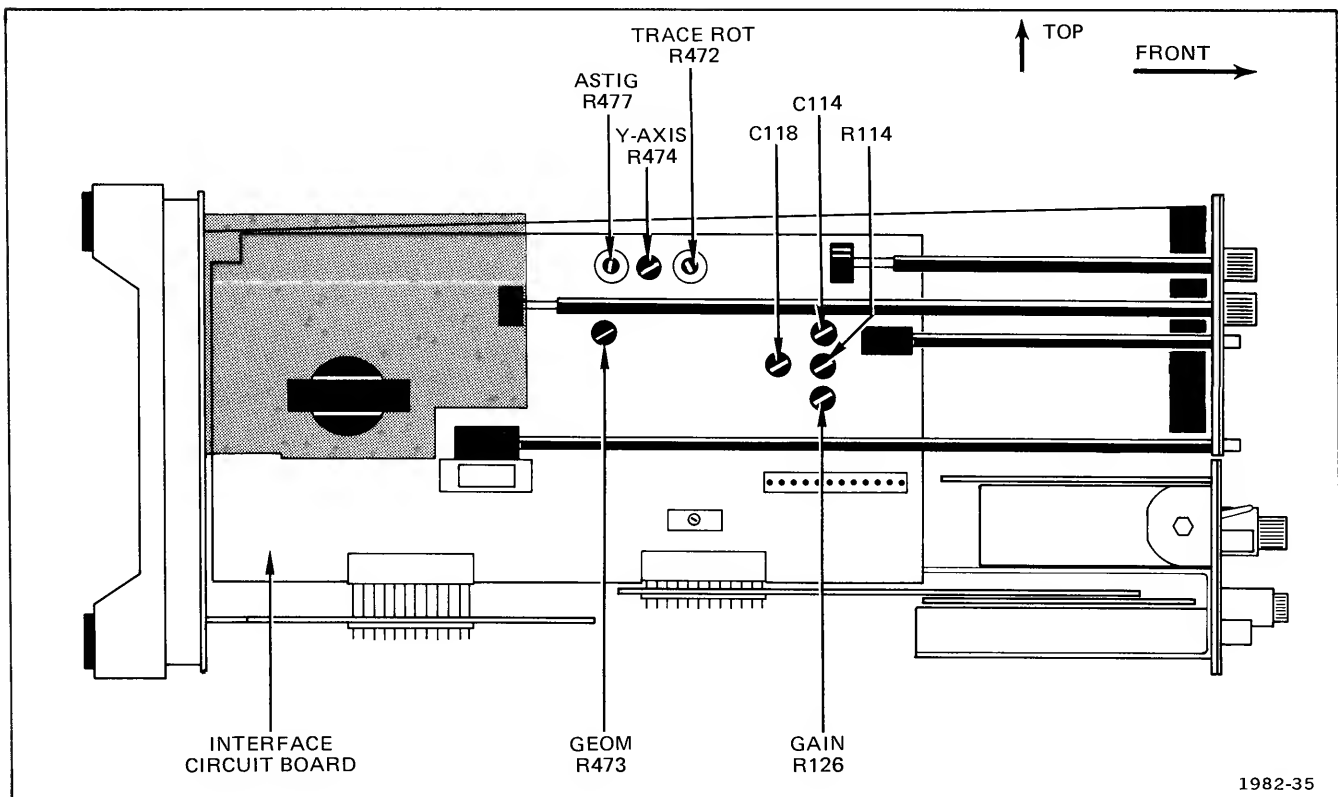
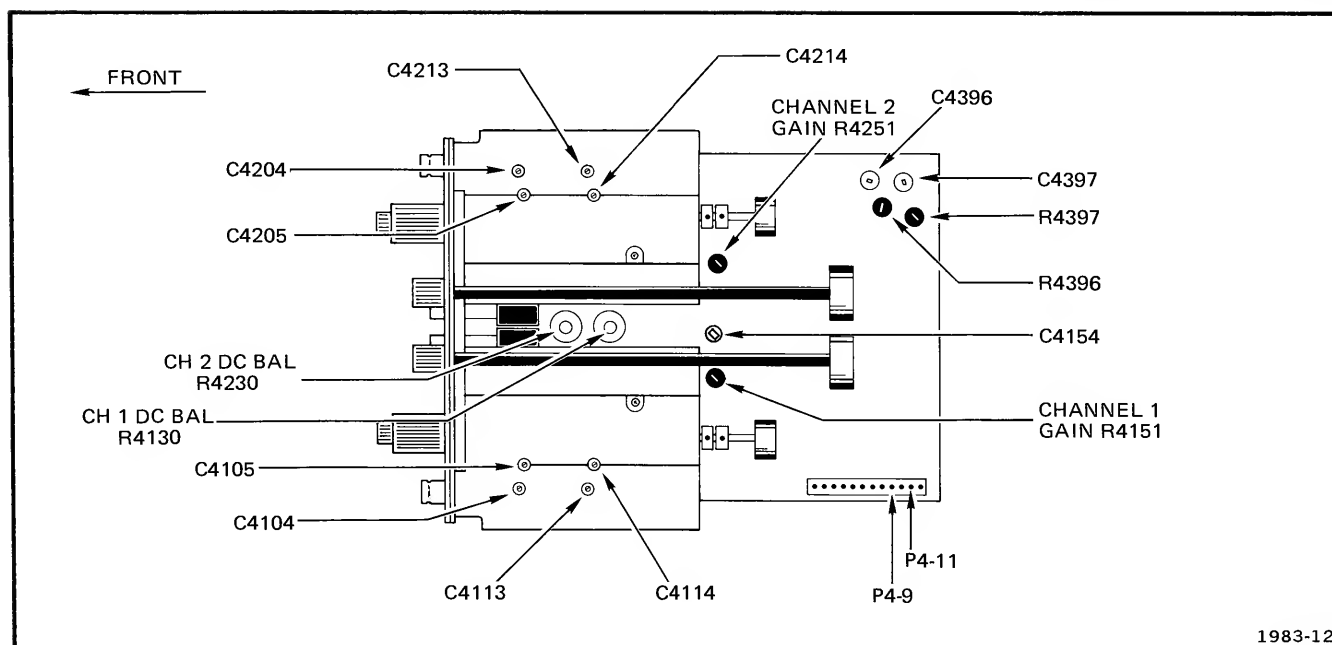
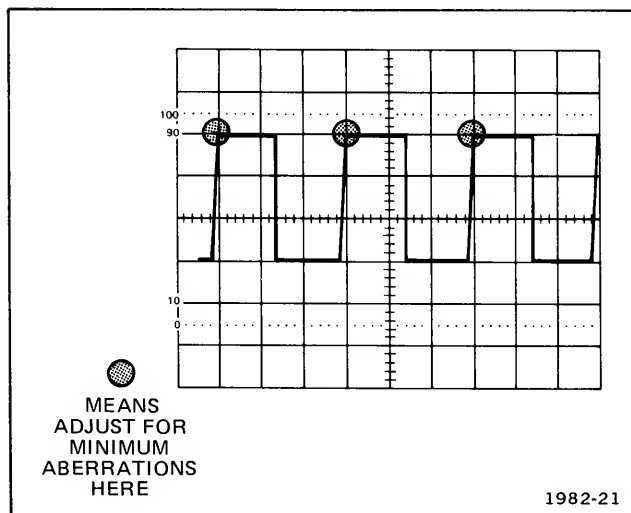

Fig. 4-2. Interface board adjustment locations (on left side of crt).
Fig. 4-3. Vertical Amplifier adjustment locations (bottom view of Instrument).
Fig. 4-4. Display of correct attenuator compensation (Idealized).
- b. ADJUST—Trace Rot, R472 (see Fig. 4-2), to align trace with center horizontal graticule line.
- e. ADJUST—Y-axis, R474, (see Fig. 4-2) to align center marker with center vertical graticule line.
- b. ADJUST—Geom, R473 (see Fig. 4-2) for best alignment of markers with the vertical graticule lines, i.e.: minimum bowing of markers.
a. ADJUST—CH 1 DC BAL, R4130 (see Fig. 4-3), for no trace shift while switching CH 1 VOLTS/DIV control between 2 mV and 10 mV.
c. ADJUST—CH 2 DC BAL, R4232 (see Fig. 4-3), for no trace shift while switching CH 2 VOLTS/DIV control between 2 mV and 10 V.
b. Set Gain, R126 (see Fig. 4-2), to physical midrange.
c. Connect digital voltmeter between P4-9 and P4-11 (see Fig. 4-3). Select range on meter for at least 500 mV reading.
f. Adjust Gain, R126 (see Fig. 4-2), so trace aligns with third graticule line above center horizontal graticule line.
- c. ADJUST—Gain, R4151 (see Fig. 4-3), for a 4-division display.
- e. ADJUST—Gain, R4351 (see Fig. 4-3), for 4-division display.
- e. ADJUST—C4397, R4397, C4396, R4396 (see Fig. 4-3), C114, R114, C118 (see Fig. 4-2), for best front corner of waveform using a low-capacitance alignment tool.
h. ADJUST—C4154 (see Fig. 4-3), for best square front corner of waveform using low-capacitance alignment tool.
c. ADJUST—C4114 (see Fig. 4-3) for best square front corner (see Fig. 4-4 for example).
e. ADJUST—C4105 (see Fig. 4-3) for best square front corner (see Fig. 4-4 for example). Disconnect test equipment.
c. ADJUST—C4214 (see Fig. 4-3) for best square front corner (see Fig. 4-4 for example).
e. ADJUST—C4205 (see Fig. 4-3) for best square front corner (see Fig. 4-4 for example). Disconnect test equipment.